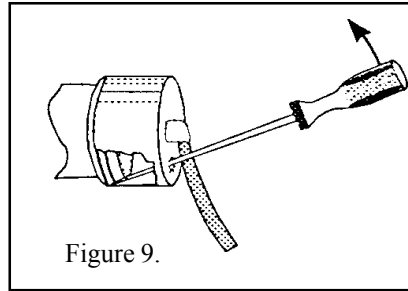

Figure 9.
3. Remove the snap-on cord cap by inserting a slotted screwdriver into the access hole and prying upwards, as illustrated in Figure 9, Section IV Relamping Instructions.
- Remove the snap-on cord cap by inserting a slotted screw driver into the access hole as illustrated in Figure 9 and prying upwards.